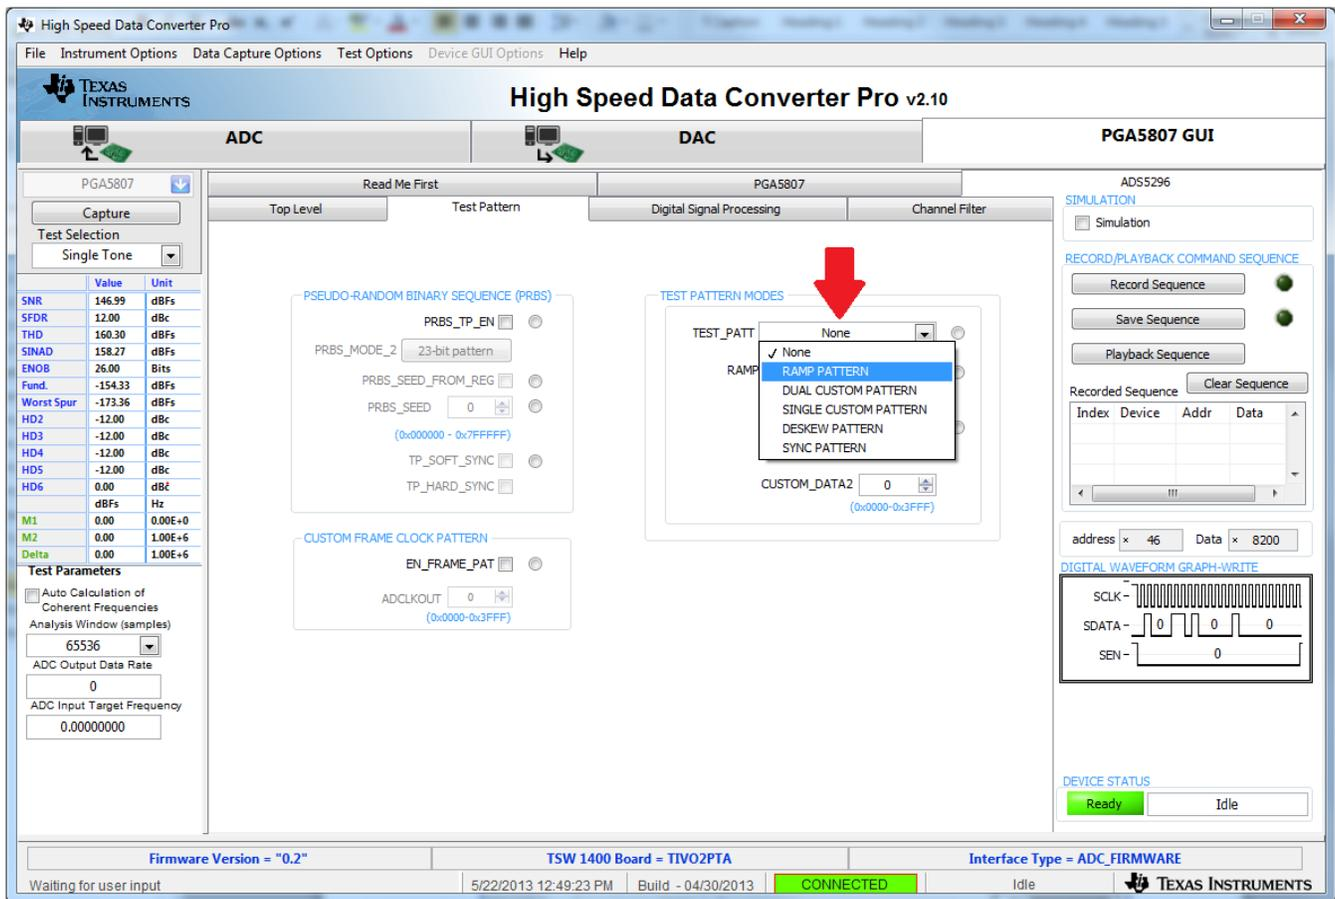

Figure 32. ADS5296 Setup for RAMP Test
- Within the ADS5296 tab, press on the sub-tab labeled *Test Pattern* and select **RAMP PATTERN** within the **TEST_PATT** menu as shown in Figure 32.